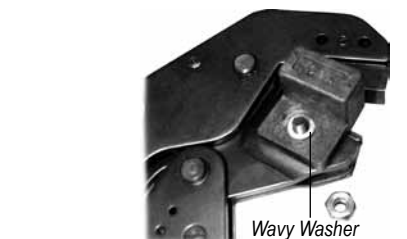
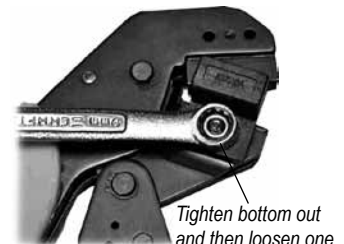

Figure 4
Figure 5
4. Place the locator, wavy washer and nut on the screw; in that order. (See Figure 4 & Figure 5)